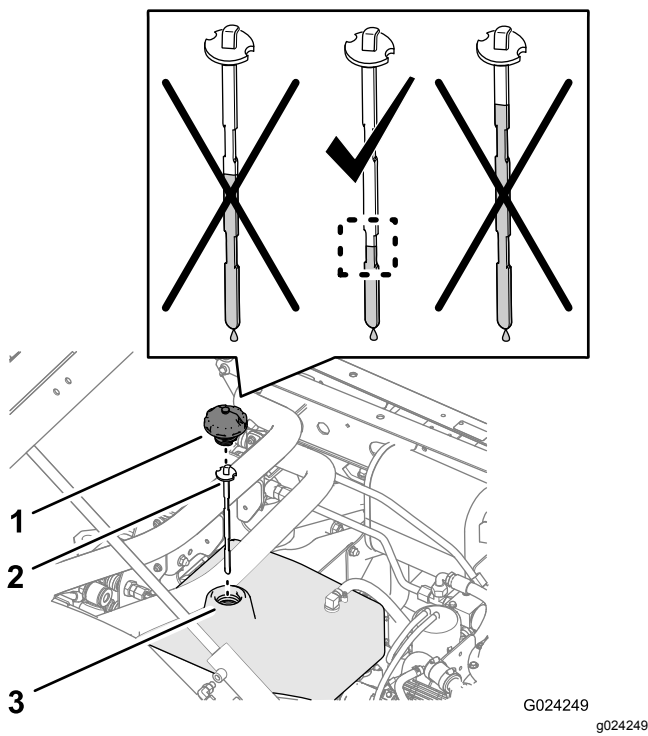
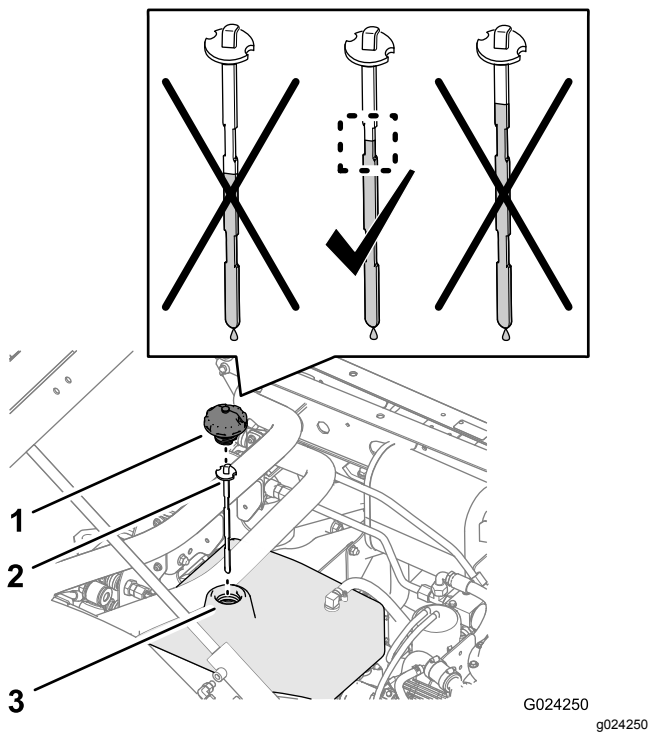

Figure 79
Figure 80
4. Clean the area around the filler neck and the cap of the hydraulic reservoir (Figure 79 and Figure 80).
5. Remove the cap and dipstick from the filler neck of the reservoir and wipe the dipstick clean with a rag (Figure 79 and Figure 80).
6. Insert the dipstick into the filler neck; then remove it and check the fluid level (Figure 79 and Figure 80).
7. If the level is low, add the specified hydraulic fluid into the reservoir to raise the level to the middle of the indented area on the dipstick (Figure 79 and Figure 80).
8. Install the dipstick and cap to the filler neck of the reservoir (Figure 79 and Figure 80).